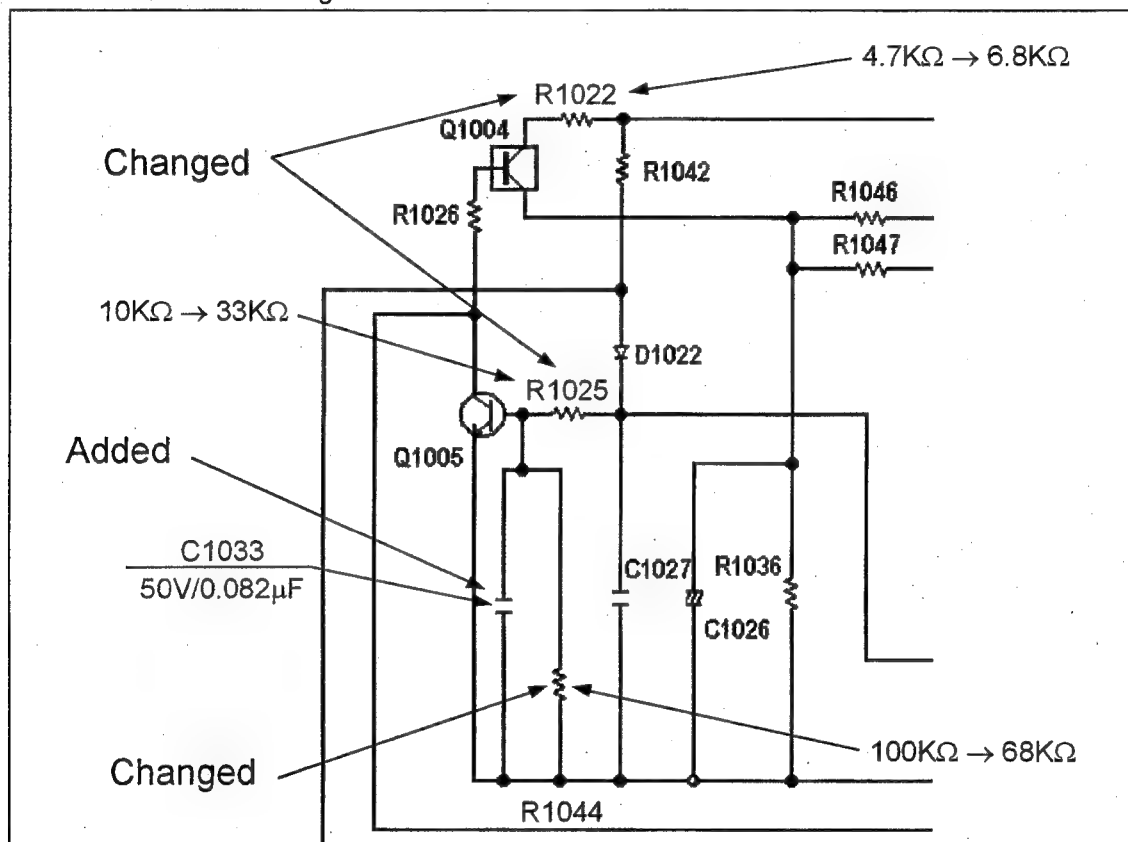

Fig. 1
- 2). Resistor R1002 is changed from 1/4W, 4.7K $\Omega$  to 1/4W, 6.8K $\Omega$  on the component side as shown in figures 1 and 3.
- 3). Resistor R1025 is changed from 1/4W, 10K $\Omega$  to 1/4W, 33K $\Omega$  on the component side as shown in figures 1 and 3.
- 4). Resistor R1044 (1/4W, 100K $\Omega$ ) is removed and new resistor R1044(1/4W, 68K $\Omega$ ) and capacitor C1033 (50V/0.082 $\mu$ F) are inserted after the removing portion of old R1044 on the component side as shown in figures 1 and 3.